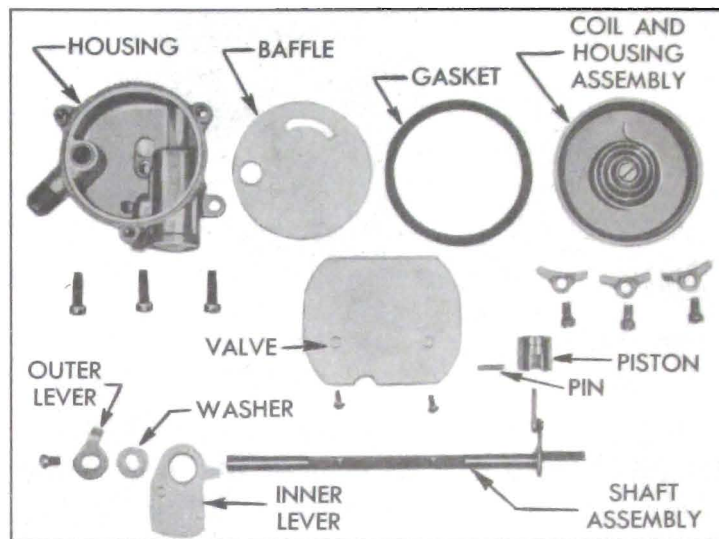

Figure 3-31—Climatic Control—Disassembled
4. Rotate shaft to disengage choke piston from cylinder. File burrs from choke shaft and remove shaft and lever assembly with piston attached. Remove three screws and remove choke housing from air horn. See figure 3-31.